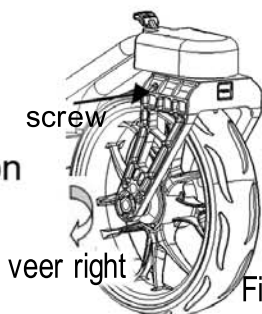

Fig.19
2.If the cart veers to the right, face the front wheel of the cart and use the Allen wrench provided to screw the bolt counterclockwise until the front wheel is cetenred between the front fork.(Fig.19)